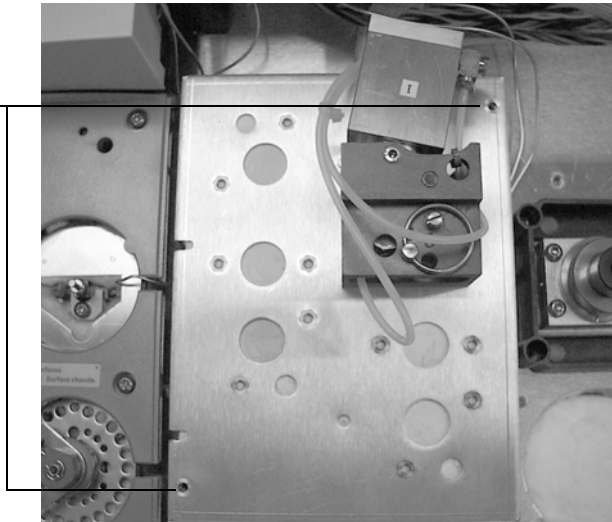

Figure 3 Opening the valve box
- 5** Remove the two mounting screws that secure the upper valve box to the GC and lift it, exposing the valves in the lower valve box (Figure 3).